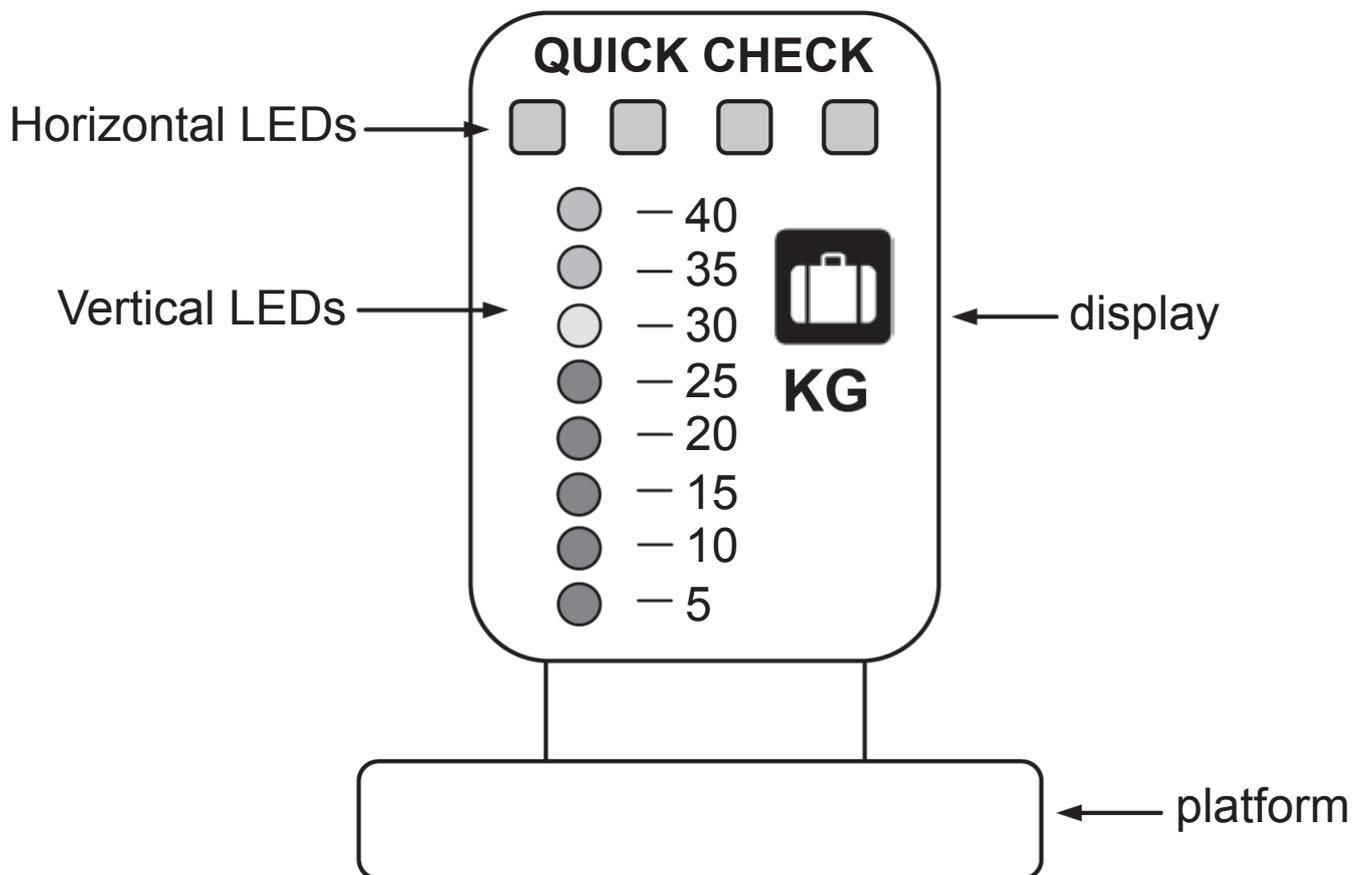
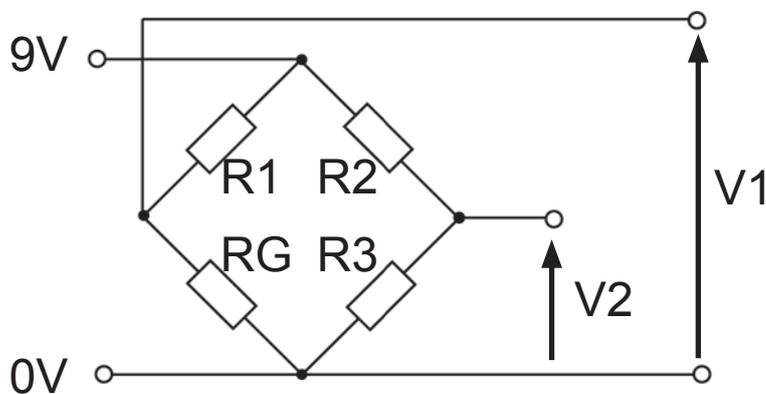

Fig. 1
Fig. 2
- 1 **Fig. 1** shows the display for a prototype system that has been devised to indicate baggage weight at an airport terminal. A row of horizontal LEDs will continuously flash in an eye catching sequence and the vertical LEDs will indicate weight to the nearest 5 kg when an item of baggage is placed on the platform. A strain gauge is to be used as the input sensor.
- (b) A strain gauge attached to the platform in **Fig. 1** is connected as part of a Wheatstone bridge as shown in **Fig. 2** where R_G represents the resistance of the strain gauge and R_1 , R_2 and R_3 each have a resistance of 120.0Ω .
- (i) Determine the voltage at V_2 in **Fig. 2**. [1 mark]
- (ii) During testing it was found that the resistance value of R_G in **Fig. 2** was 120.3Ω when the platform in **Fig. 1** was holding the maximum load of 40 kg. Calculate V_1 when the platform is holding the maximum load. [2 marks]
(c) The voltages V_1 and V_2 from the Wheatstone bridge circuit shown in **Fig. 2** are to be connected to an op amp based circuit in differential mode where $V_o = (R_f/R_i)(V_1 - V_2)$.